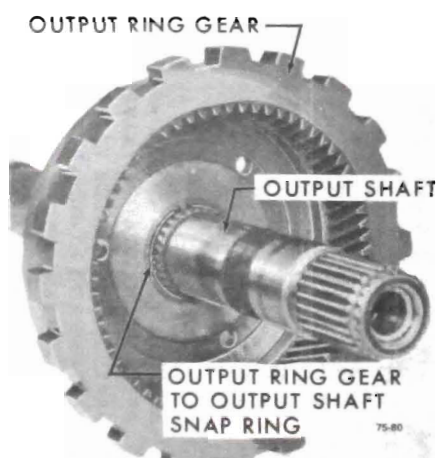

Figure 75-246
1. Install output ring gear to output shaft. Install output ring gear to output shaft snap ring. See Figure 75-246.